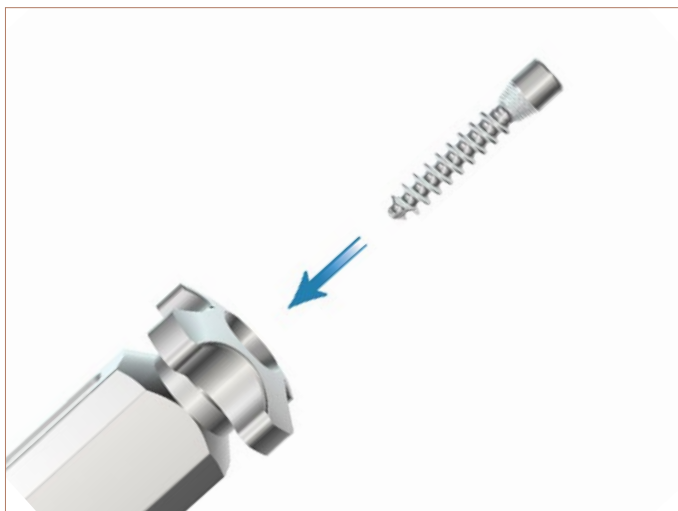

Figure 29
- ▶ Place the selected Center Screw into the opening on the end of the Baseplate Holder and allow it to slide down into position on top of the Glenoid Baseplate [Figure 29].